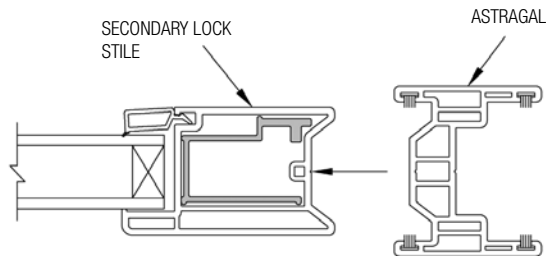
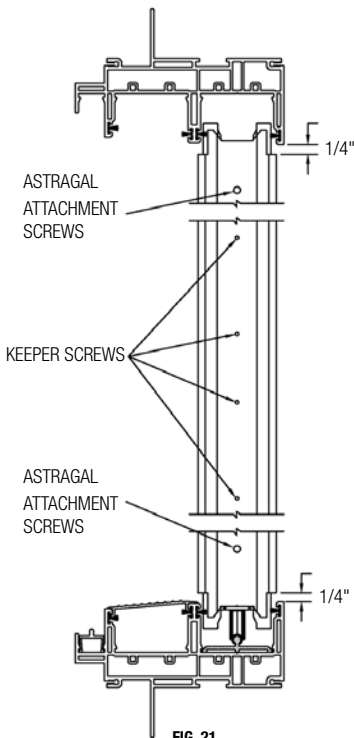

FIG. 20
FIG. 21
- C) Apply the astragal to the secondary stile. The secondary stile will fit into the shallow pocket on the astragal (Fig. 20). Center the astragal vertically in opening. There should be an approximate 1/4" gap between the astragal and the head & sill. (Fig. 21).
- D) Attach the astragal to the secondary stile using screws from earlier. Apply the screws in the in the same holes as originally attached. (Fig 21).